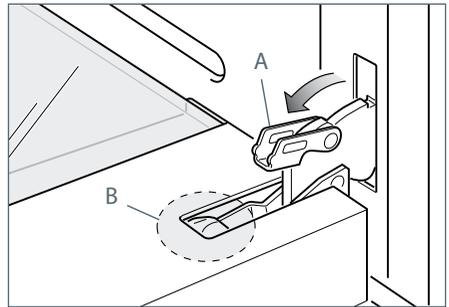
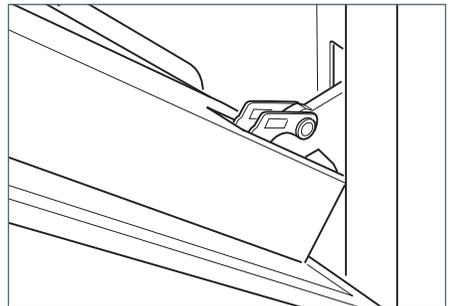

Fig.59b
Fig.59c
- Fully open the lever "A" on the left and right hinges (Fig. 59b).
- Gently close the door (Fig. 59c) until the left and right hinges are hooked to part "B" of the door (Fig. 59b).